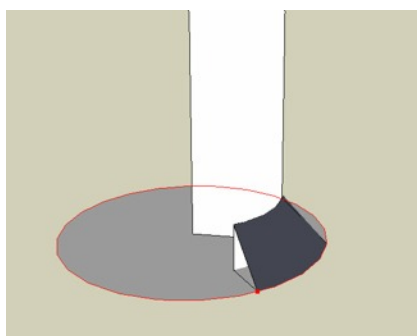

Figure 83. The triangular wedge being rotated with the Follow Me tool using the circle as the path
- At the base use the **Follow Me** tool to rotate the triangular wedge shape around the circle as shown in Figure 83.